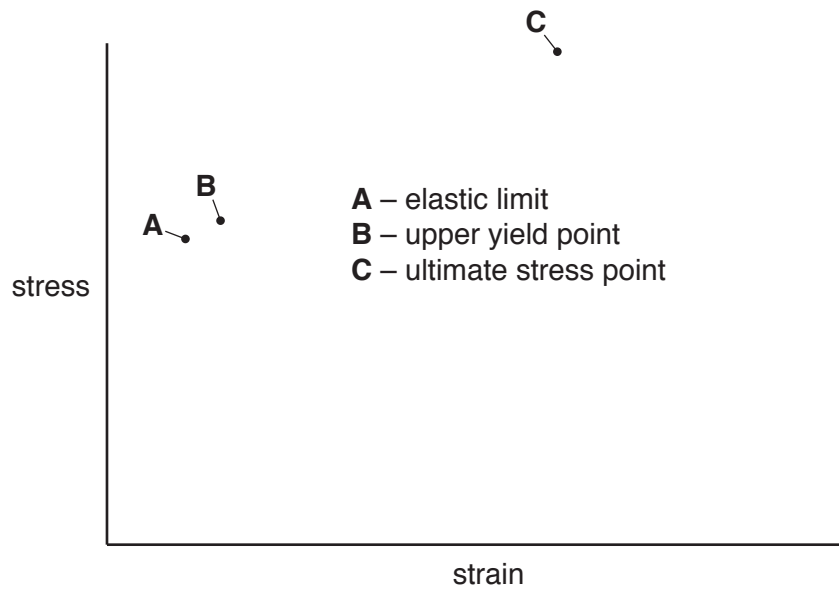

Fig. 7
- (c) Fig. 7 shows the axes for a stress/strain graph for mild steel. The position of three features that will appear on the graph are marked.
- (i) Draw the shape of the graph on Fig. 7. [3]